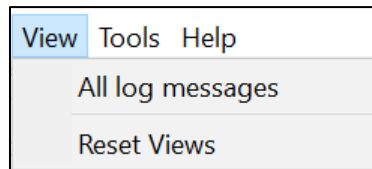
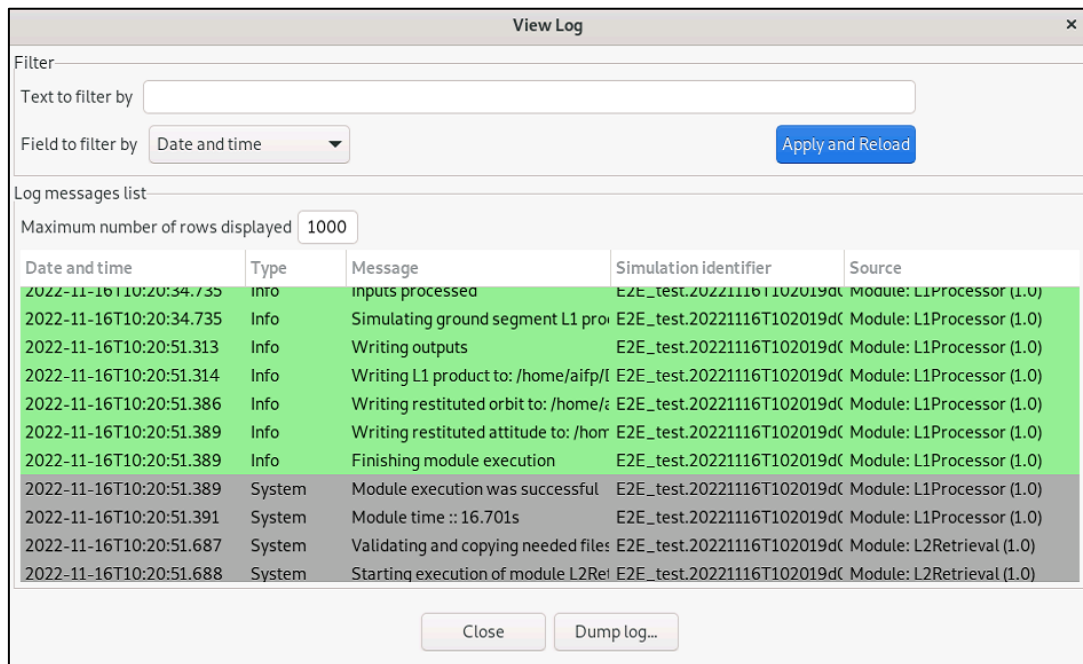

Figure 4-133: Logs menu
Figure 4-134: Logs list view
Thus, if a simulation is executed in any of these modes, the user will be prompted with a screen collecting all the sub-simulations and each of the execution results, as depicted in Figure 4-133 (for a time-based execution) and in Figure 4-134 (for an execution with iterated or perturbed parameters). If the user closes such a tab, any unfinished simulations will be aborted.
1. From the **Repository** menu. In this case, we need to navigate from the “Repository” menu down to the simulation that the user wishes to export. Next, right-clicking over it; the “Export” option appears for selection. This is illustrated in Figure 4-134 below.